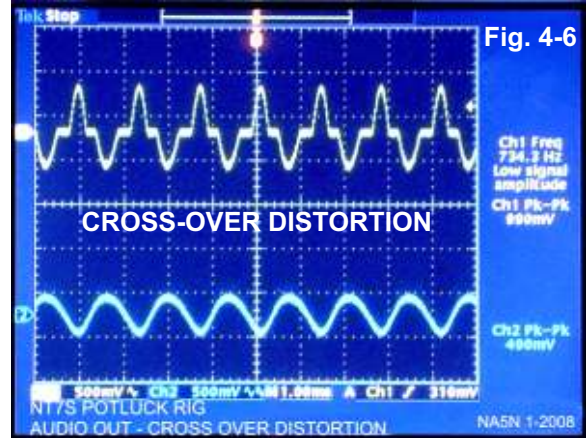

Fig. 4-6
**Crossover Distortion.** Diodes D11-D12 offsets the base bias to prevent *crossover distortion*. Fig 4-6 shows the result by bypassing the diodes (Sorry, Jason). As seen, it is a dramatic effect distorting the output gain. With D11-12 there is no crossover distortion on the audio output.